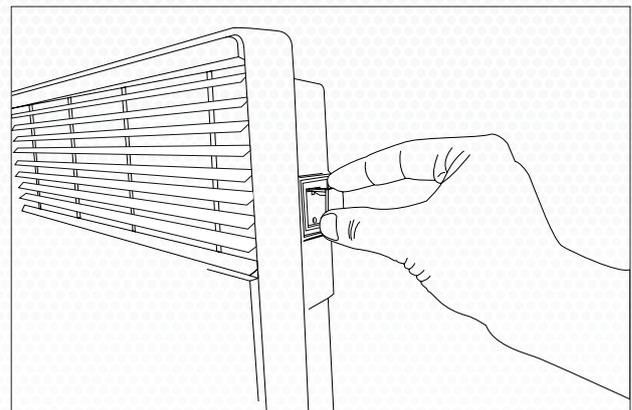

FIG:2
- Holding the key with the tooth at the top, note the T shape of the tooth. On the top right hand side of the heater is a plastic cover, on this cover you will see a corresponding T slot. Locate the key into the T slot on the heater (see fig. 2).